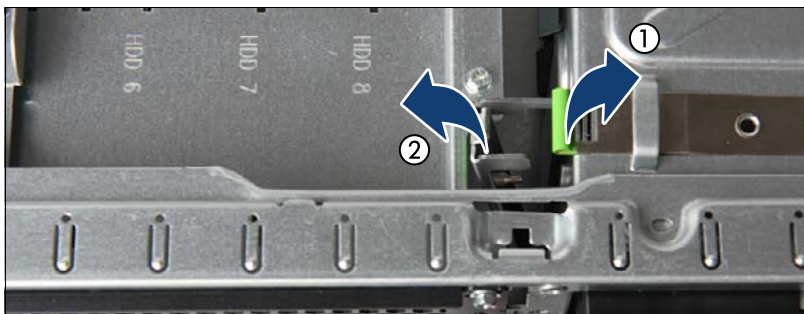

Figure 249: Removing the front panel module (rack systems)
- ▶ Insert the front panel module into its installation bay and carefully push in until the front screw hole on the front panel frame lines up with the centering pin on the locking bar (1).
- ▶ Close the locking bar until it locks in place (2).
**i** Unlocking and securing the front panel and accessible drives is illustrated by the example of tower servers. In case of rack servers, the accessible drive locking bar is located on the side of the drive bay (see figure 249).